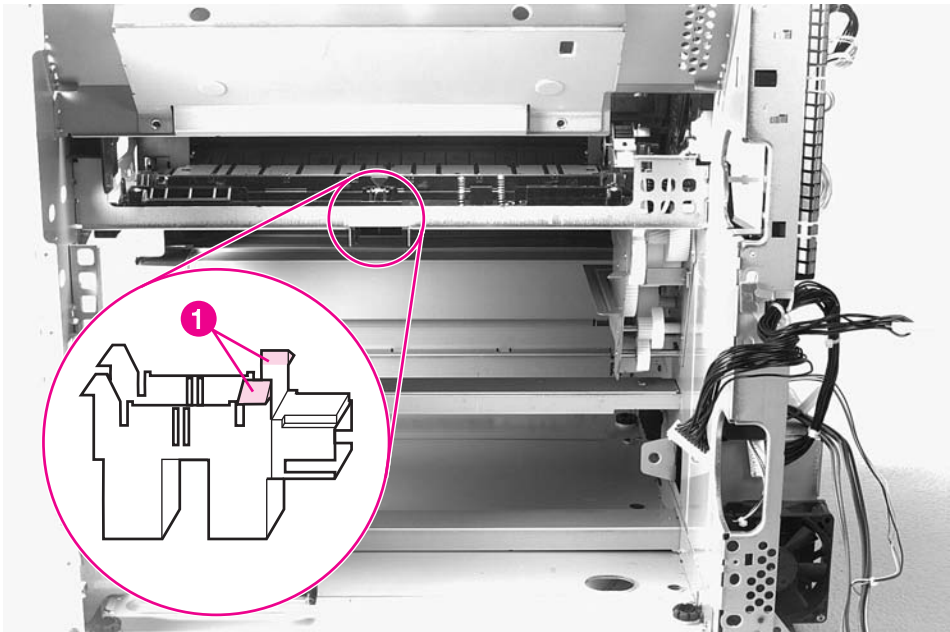

Figure 6-60 Registration Sensor (PS1)
- 3 Release the retaining tabs (figure 6-60, callout 1) on the right end of the sensor and rotate the sensor down to free the tabs on the left end of the sensor.